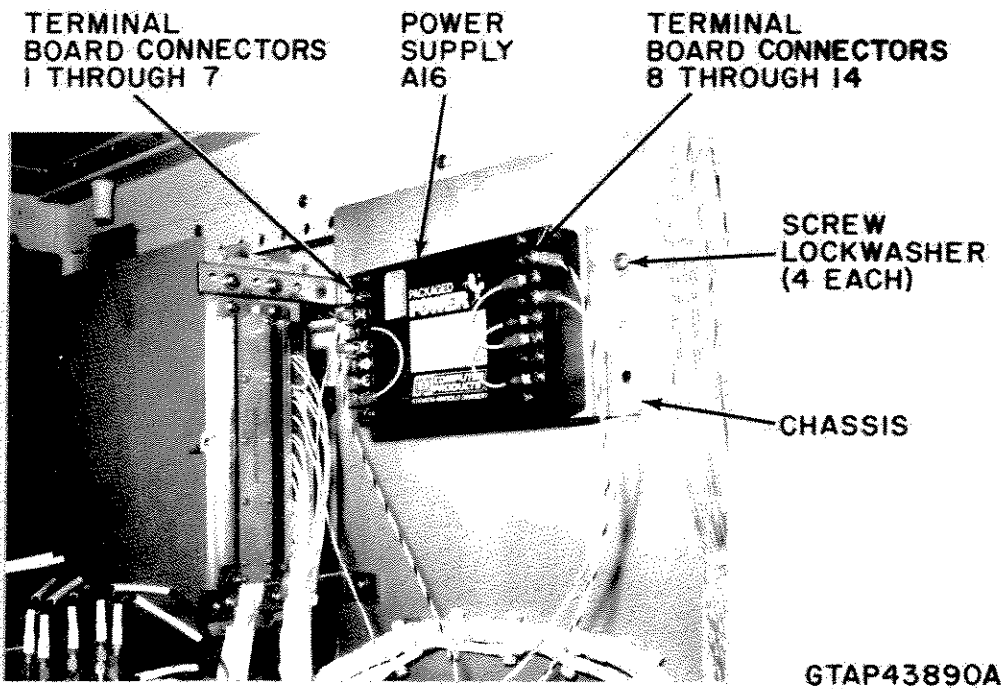

Figure 6-74. Exciter/Auxiliary Exciter Cabinet, Unit 151/152, Power Supply A16
4. At power supply A16 located near top right of cabinet, tag lead wires and jumper wires as necessary to identify correct connections (Figure 6-74).
2. Position replacement power supply and chassis on cabinet; secure chassis to cabinet with 4 screws and lockwashers (Figure 6-74).